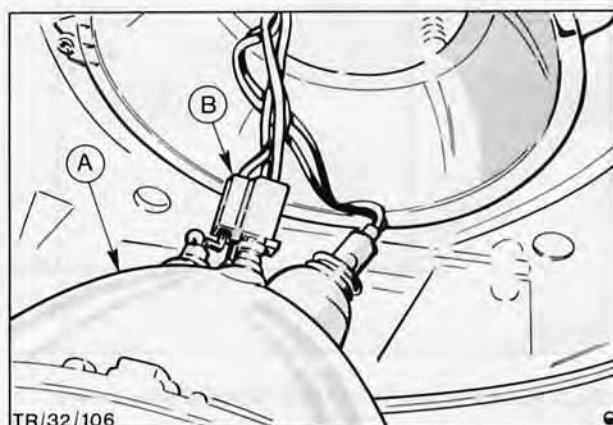

Fig. 6. A – Headlamp
9. Reconnect multi-plug, Fig. 6.